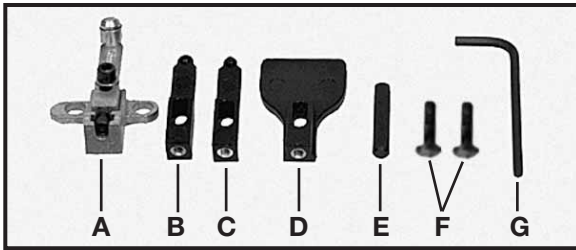
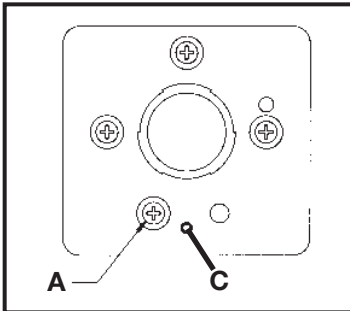
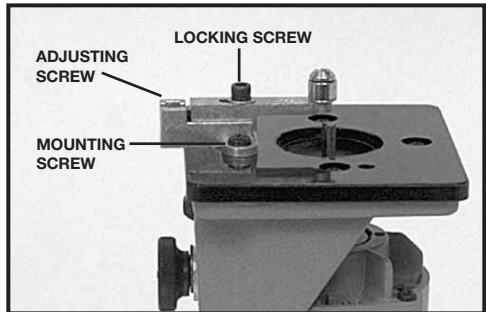

Fig. 4
Fig. 5
Fig. 5A
The Model 73100 Edge Guide Kit is available (as an accessory), for use with the Model 310 trimmer. The 73100 is designed for use with non-piloted bits, on curved or straight applications. Non-piloted bits can produce a 90° straight cut, a 10° bevel cut, or a 22° bevel cut. The kit (Fig. 4) contains:
2. The base and roller guide (A) Fig. 4, is assembled at the factory. To assemble, remove a sub-base mounting screw (A) Fig. 5 and insert alignment pin in guide base into hole (C) in bottom of trimmer sub-base. Fasten with two mounting screws (F) Fig. 4, as shown in Fig. 5A. Do not tighten at this time.
4. Align roller guide with bit by loosening locking screw (Fig. 5A) and turning adjusting screw, with hex wrench provided, until guide is in desired location.
3. Remove roller guide and replace with flush trimming guide (B) Fig. 4. This guide may be identified by the molded on letter "F". The stud on the end of this guide must face toward the trimmer base.
4. Install guide setting gauge (E) Fig. 4, into trimmer collet (see TO INSTALL BIT). Install trimmer motor to base. Adjust guide so that hole in end of gauge may be positioned over the guide stud.
1. Follow Steps 1 through 5 under FLUSH TRIMMING, except install bevel trimming guide (C) Fig. 4. This guide is identified by the letter “B” molded onto it.
The straight edge guide (D) Fig. 4, maybe used with either bit for trimming straight edges.